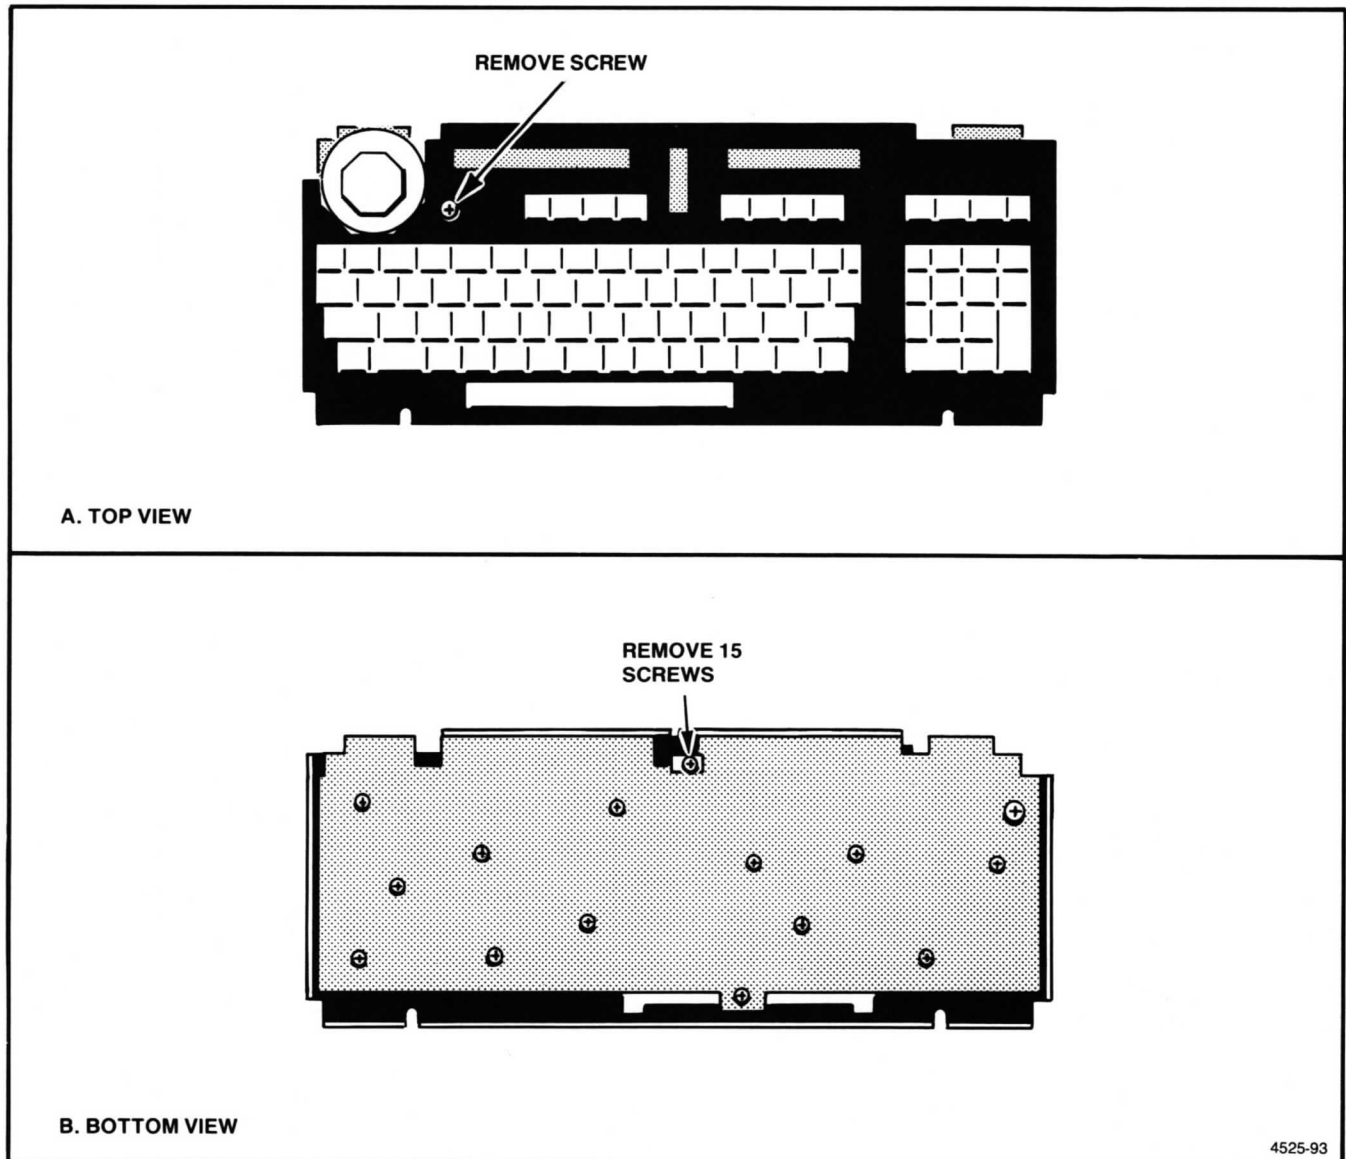

Figure 6-17. Keyboard Circuit Board Mounting Screws.
9. Unscrew 13 small Phillips screws from the keyboard circuit board. See Figure 6-17.
10. Unscrew three screws from this circuit board, also shown in Figure 6-17.